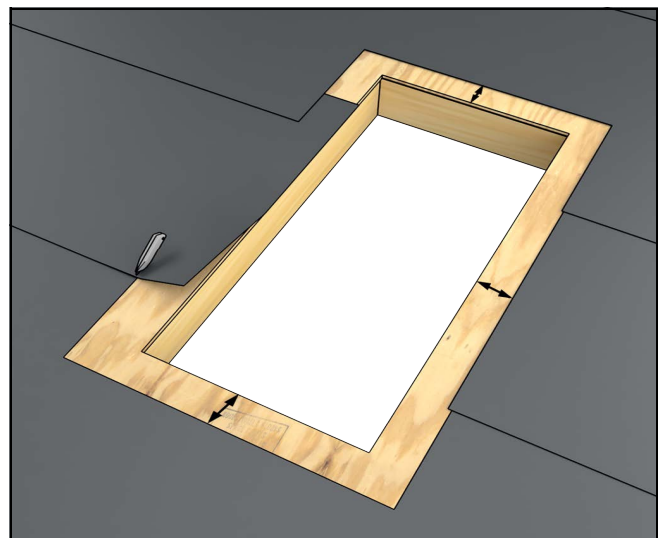
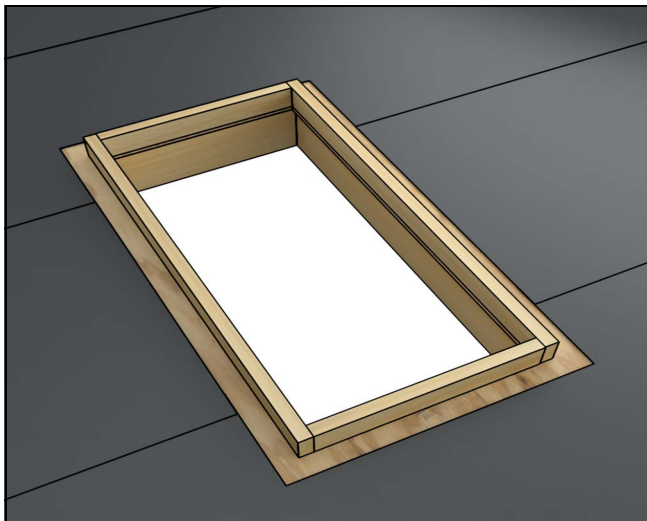

Figure 29
Figure 30
3. Remove 6" of existing roofing and underlayment around the rough opening as shown in Figure 29. Attach curb to roof deck, see Figure 30.